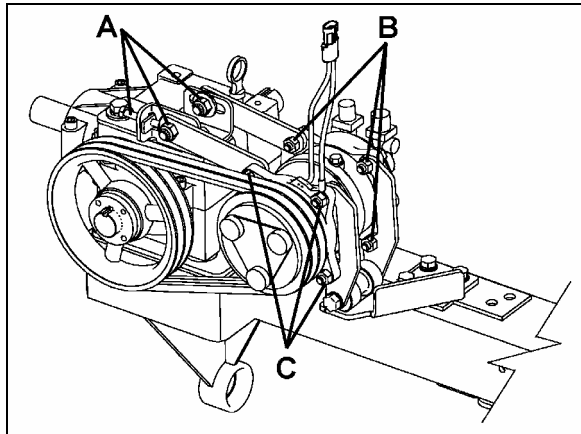

FIGURE 35: COMPRESSOR REMOVAL OR INSTALLATION
- * Slacken bolts A (Refer to figure 35).
- * Remove bolts B & C (Refer to figure 35).